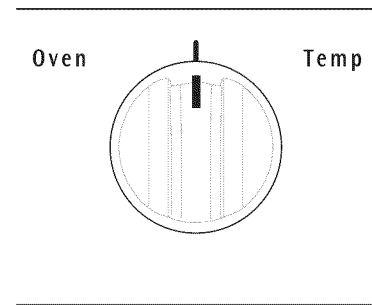

Fig. 1
2. Turn the oven temp control knob (See Fig. 1) to the desired oven temperature (See Fig. 2).
2. Turn the oven control knob to **broil** (See Figs 1 & 2). Most foods can be broiled at the broil setting. Preheat the oven if desired.